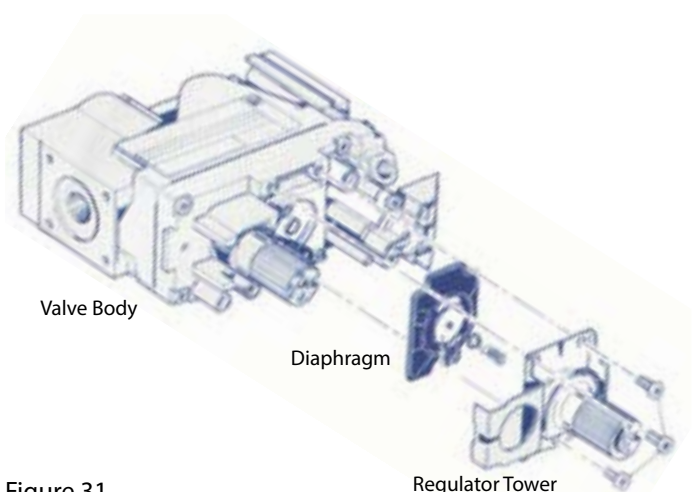

Figure 31. Regulator tower replacement.
11. Replace the Valve Regulator. Using a Torx T-20 screwdriver, remove the screws from the front of the regulator. Remove the regulator components and replace with the one from the conversion kit. See fig. 31.